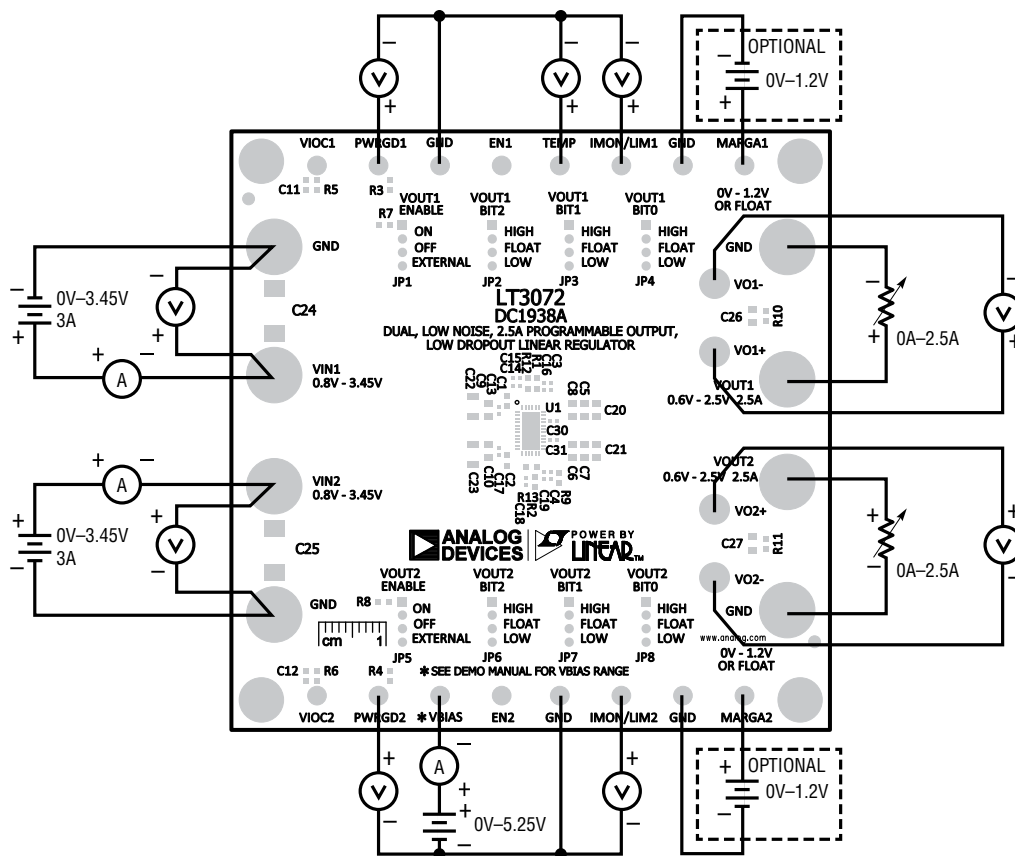

Figure 1. Proper Equipment Setup for DC1938A.
To use DC1938A to evaluate the performance of the LT3072, refer to Figure 1 for the proper equipment setup and follow the procedure below:
1. With the input supplies and loads off and turned down, make all connections according to Figure 1. Make sure the jumpers to set  $V_{OUT1}$  and  $V_{OUT2}$  are in the proper positions for the desired output voltage according to Table 1 of the LT3072 data sheet. Make sure the  $V_{OUT1}$  ENABLE and  $V_{OUT2}$  ENABLE jumpers are in the ON position.